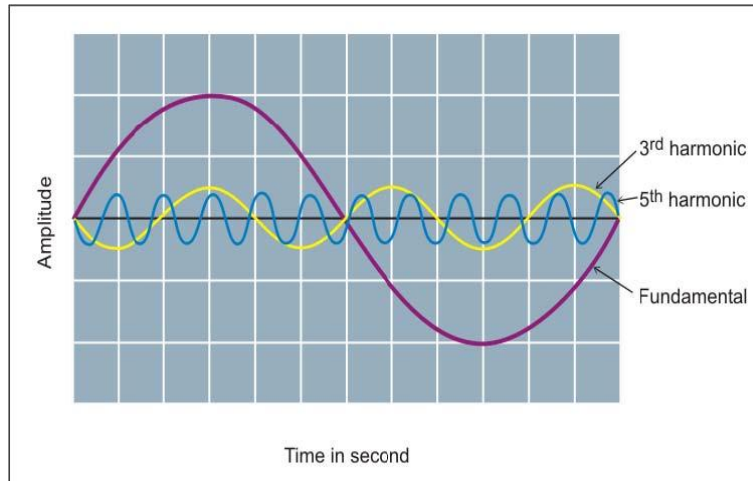
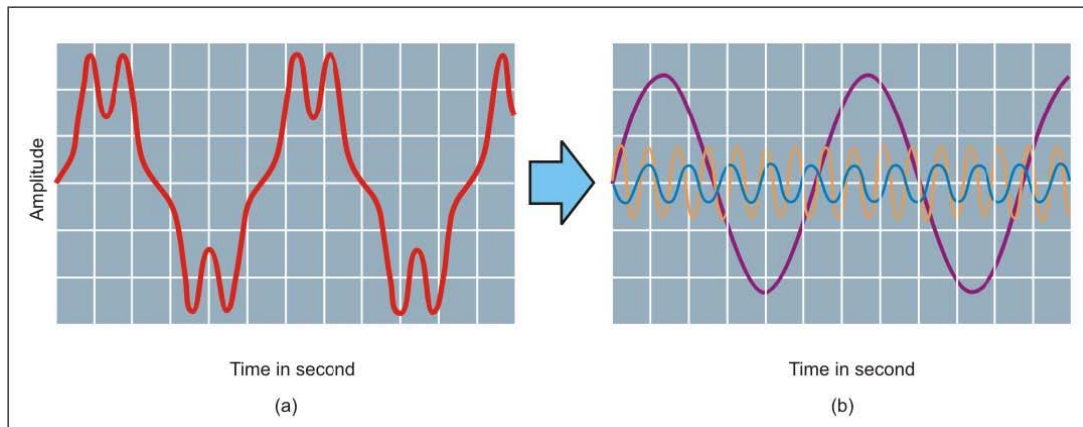

Figure 1
Figure 2
In very simple terms, harmonics are voltage and current sinusoids that have different (multiple) frequencies in addition to the fundamental frequency of 50 hertz (Hz). The usual practice is to identify the harmonic waveforms by harmonic numbers. For example, we call the third harmonic as a sinusoid with a frequency of 150 Hz (3 x 50 Hz) and the fifth harmonic as a sinusoid with a frequency of 250 Hz (5 x 50 Hz). Figure 1 shows fundamental, third harmonic, and fifth harmonic. In the presence of these harmonics, the amplitude of the alternating current (AC) voltage waveform changes (shown in red, see Figure 2 (a)). As you can see, the harmonics cause harmonic distortion. Mathematically, we represent total harmonic distortion (THD) as